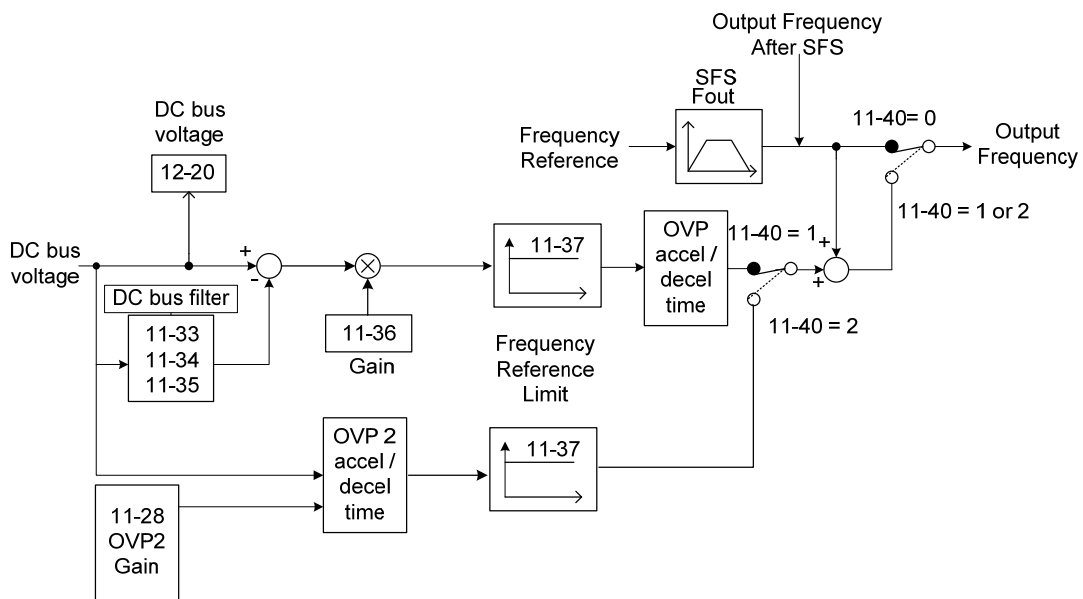

Figure 4.4.93 OVP operation
When the speed reference is reduced, the motor will start to decelerate. When the inverter is operating at a fixed output frequency and excessive regenerative energy back to the inverter is detected the inverter will accelerate the motor in order to reduce the DC-bus voltage. Refer to figure 4.4.93.
3) When the inverter is stopped, the deceleration rate can be set with parameter 00-15 (Tdec1). In case the DC voltage is too high, the inverter will decelerate based on the OVP deceleration time as shown in Figure 4.4.93.